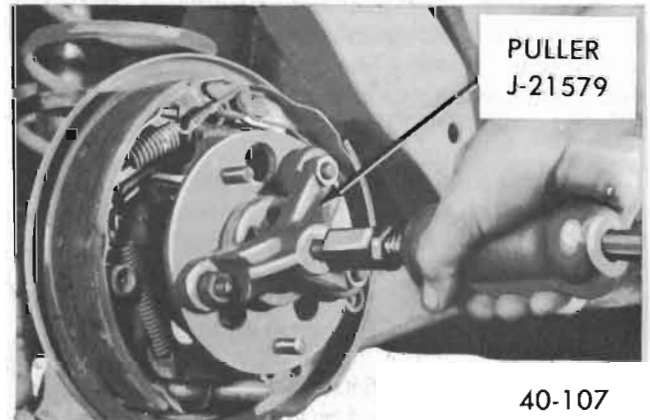

Figure 40-112 Removing Rear Axle Shaft
b. Pull out axle shaft assemblies, using Puller J-21579 with a slide hammer. See Figure 40-112.